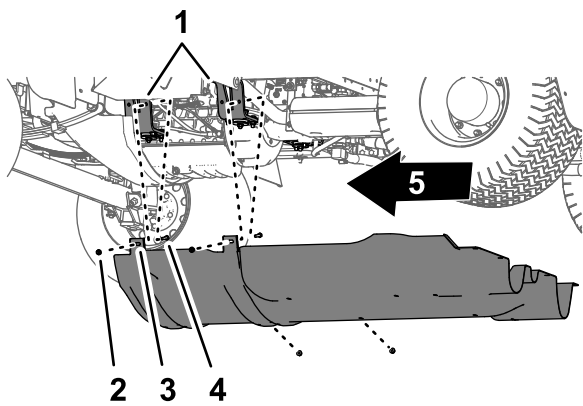

Figure 69
2. Remove the 4 flange locknuts (5/16 inch) from the bolts and carriage bolt that secure the mounting tabs of the undercarriage shroud to the engine-mount brackets of the machine (Figure 69).
4. Remove the undercarriage shroud from the machine (Figure 68 and Figure 69).
1. Align the undercarriage shroud to the bottom chassis of the machine; refer to Figure 69 in Removing the Undercarriage Shroud (page 53).
2. Move the mounting tabs of the undercarriage shroud over the bolts and carriage bolt at the engine-mount brackets of the machine; refer to Figure 69 in Removing the Undercarriage Shroud (page 53).
3. Assemble the undercarriage shroud to the engine-mount brackets and bolts (Figure 69) with the 4 flange locknuts (5/16 inch) that you removed in step 2 of Removing the Undercarriage Shroud (page 53).